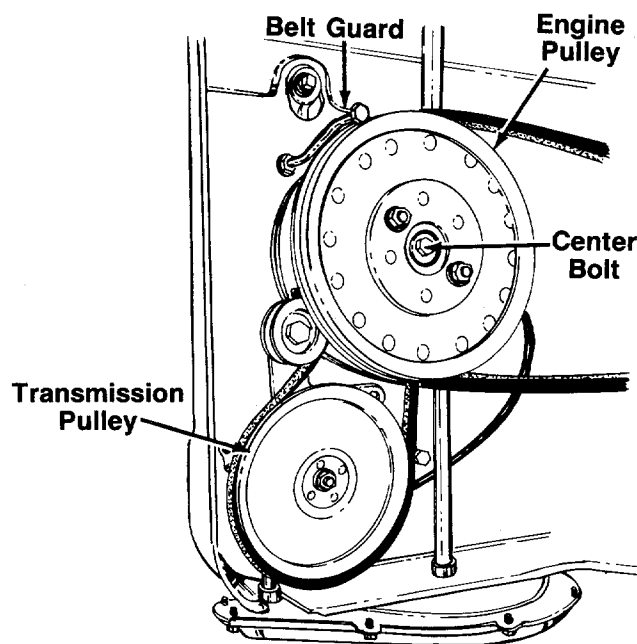

FIGURE 17.
1. Loosen the belt guard shown in figure 17 and move it away from the engine pulley.
Upon reassembly, belt guard must be 1/8" away from engine pulley, and positioned as shown in figure 17.
2. Remove the engine pulley as follows. See figures 17 and 18.